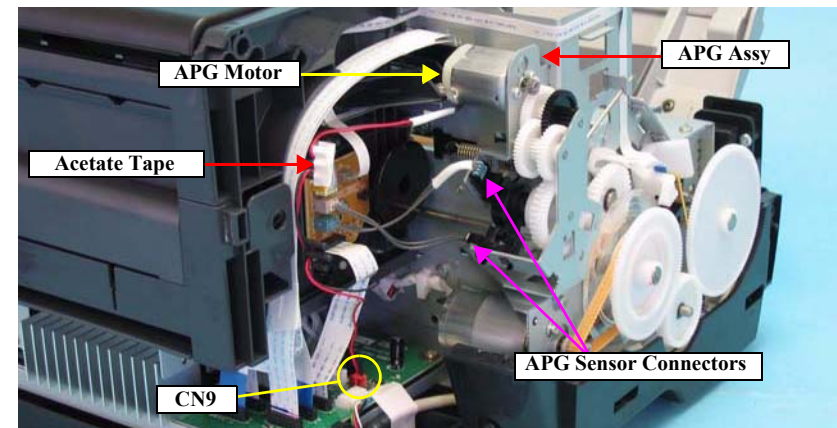

Figure 4-53. Disconnecting the Connector Cables
- Refer to Figure 4-53, and route the APG Connector Cables correctly.